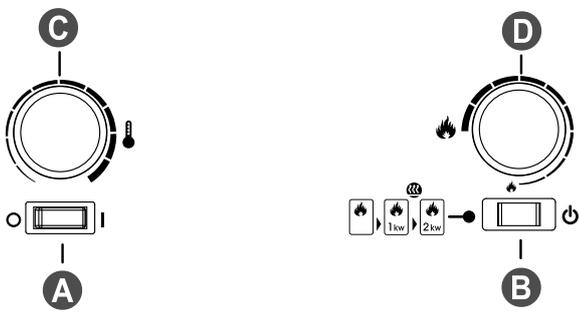
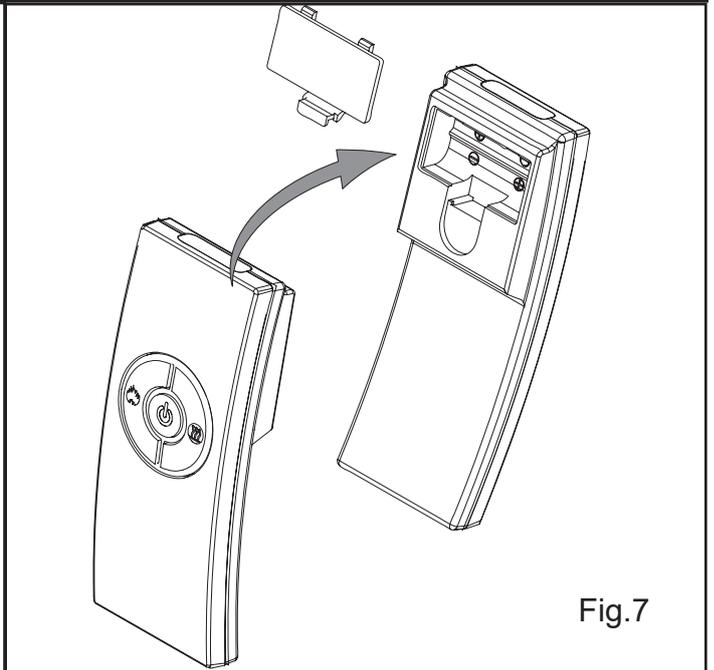
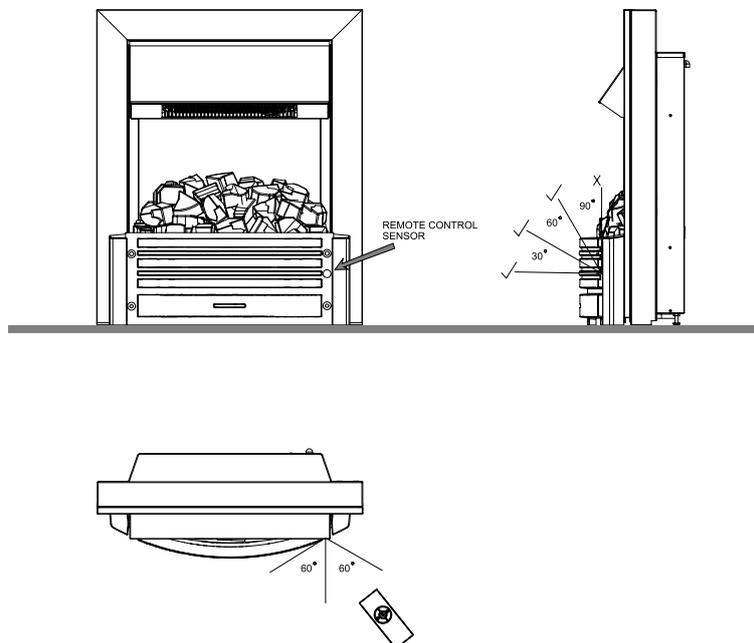

Fig.2
Fig.7
Fig.12
1. Press Switch 'A' to **(0)** (See Fig.2)
9. Press Switch 'A' to 'ON' (I) position (See Fig.2)
1. Press Switch 'A' to the 'OFF' **(0)** position (See Fig.2)
7. Press Switch 'A' to the 'ON' (I) position (See Fig.2)
On the control panel, Switch A (see Fig.2) must be in the 'ON' (I) position in order for the remote control to operate. There are 3 buttons on the remote control. (See Fig.7) To operate correctly the remote must be pointed towards the front of the grate. (See Fig 12). The remote control functions are as follows: